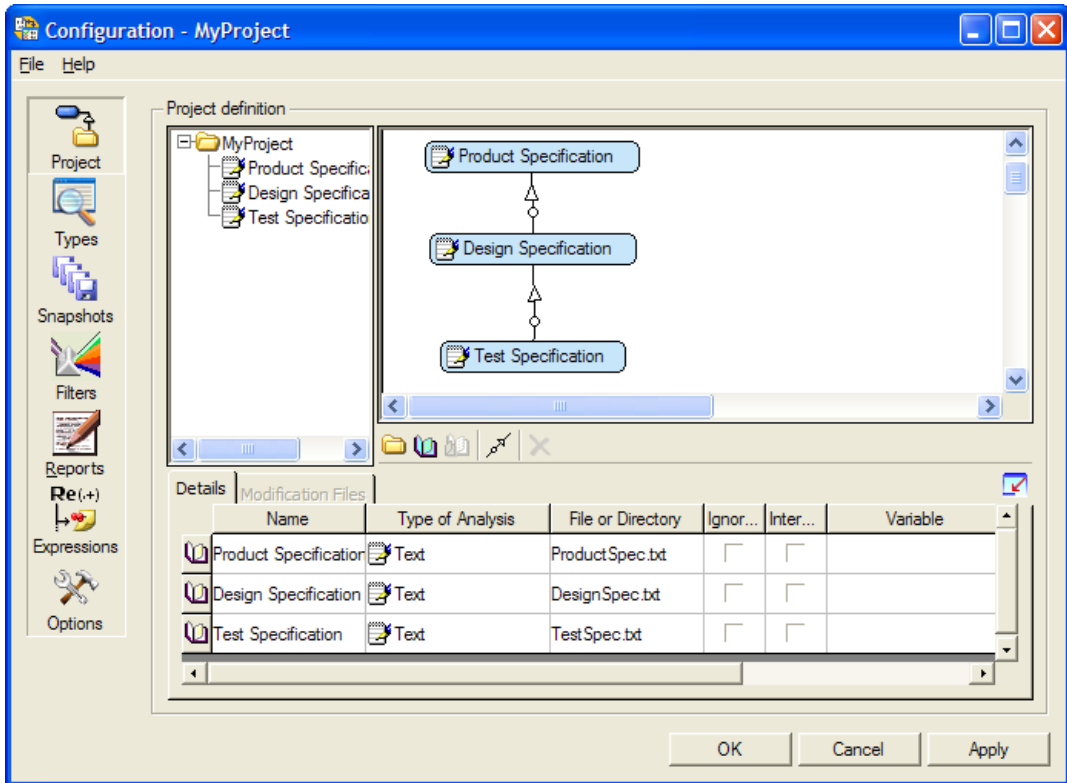

Figure 4-8. Two Levels of Covering Documents in Project
6. Click the **Add a cover** button to begin adding a covering link. Click the **Test Specification** document and then click the **Design Specification** document to create an arrow between the two documents as shown in Figure 4-8.